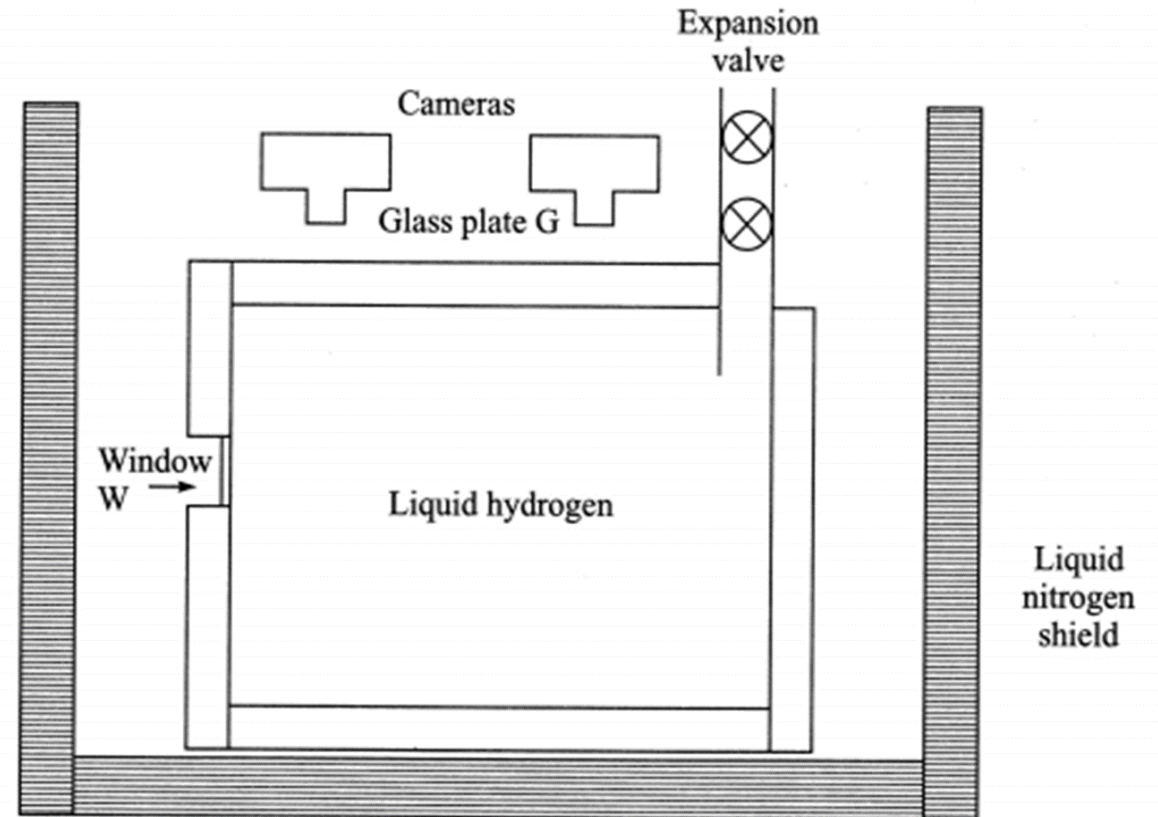

Figure 7.19 A schematic diagram of bubble chamber.
- The schematic diagram of the bubble chamber is shown in Figure 7.19.